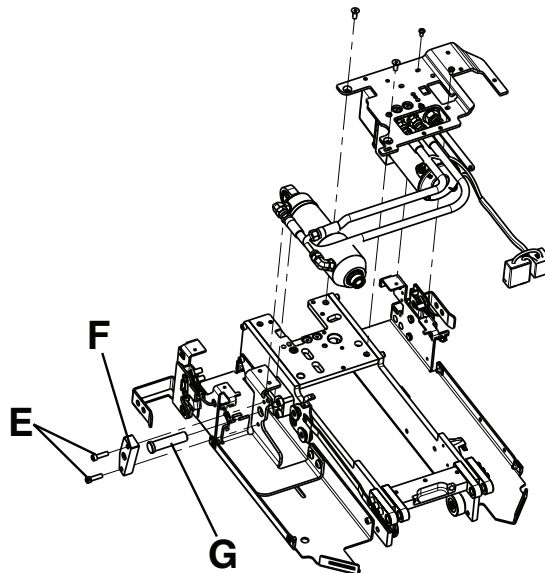

Figure 29 – Hydraulic cylinder pin location
- Using a 3/16" hex wrench, remove the two screws (E) that secure the cylinder bracket (F) to the trolley and remove the end cap cylinder pin (G) (Figure 29).